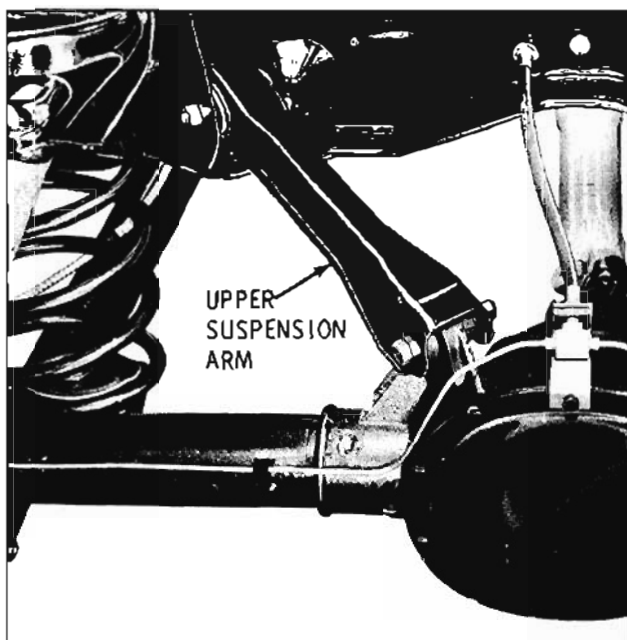

Fig. 9-134 Rear Suspension Assembly
1. Remove nut from rear arm to differential housing bolt. (Fig. 9-134)